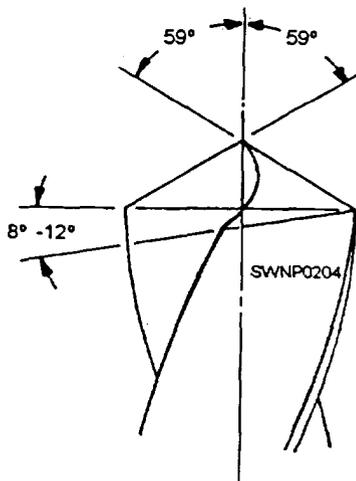
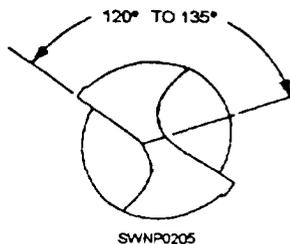

Figure 12-18.—Lip clearance.
Figure 12-19.—Angle of the dead center.
1. LIP CLEARANCE (fig. 12-18). The two cutting edges or lips are comparable to chisels. To cut effectively, you must relieve the heel or that part of the point back to the cutting edge. Without this clearance, it would be impossible for the lips to cut. If there is too much clearance, the cutting edges are weakened. Too little clearance results in the drill point merely rubbing without penetration. Gradually increase lip clearance toward the center until the line across dead center stands at an angle of 120 to 135 degrees with the cutting edge (fig. 12-19).